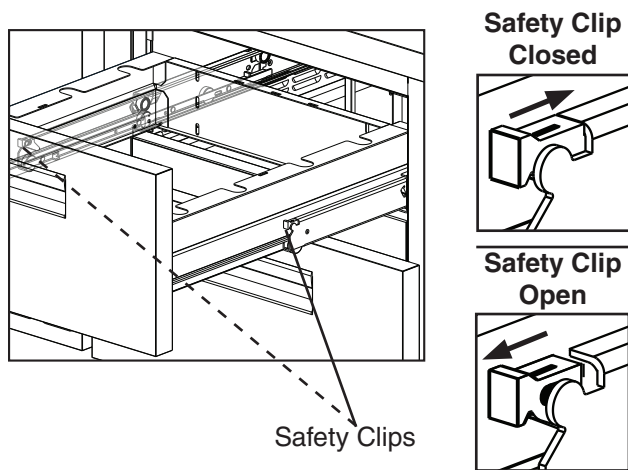

Fig. 19
- **To remove a drawer:** Remove all items from the drawer. Pull the drawer out to its fully extended position. Open the safety clips (one on each side) by sliding them forward. See Fig. 19. Lift up on the handle slightly, then pull to disengage the drawer. Be sure to support the rear and front of the drawer while removing it. **WARNING! Be sure to close the safety clips when reinstalling the drawer.**